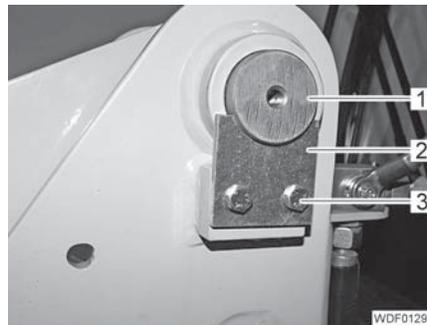

Fig. 324 Pin attachment
- Unscrew the 2 screws (Fig. 324,3) and remove the locking plate (Fig. 324,2).
- In each case, drive out 1 pin (Fig. 324,1) in an outwards direction.
- In each case, drive in 1 pin (Fig. 324,1) from the outside so that the groove for the locking plate points towards the screws (Fig. 324,3).
- Insert 1 locking plate (Fig. 324,2).
- Screw in and tighten 2 screws (Fig. 324,3) on each side with spring lock washers and disks.